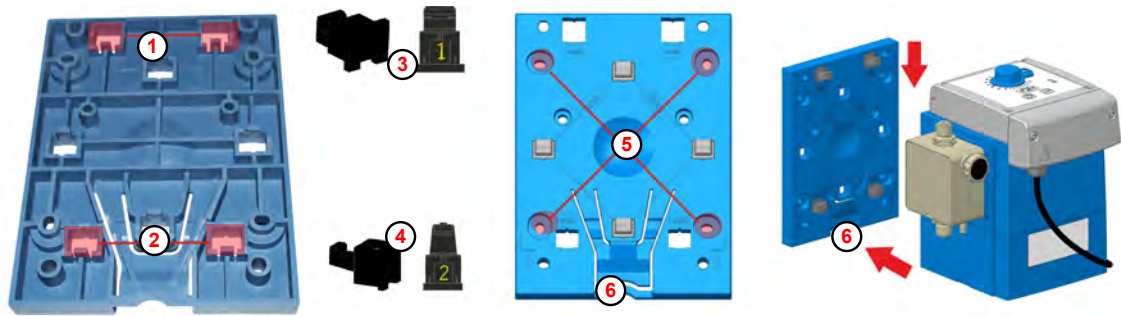

Fig. 5: Preparations for wall mounting
*On the underside of the mounting plate, the boreholes for wall mounting ( Fig. 5 , ① or ② ) are marked with a 2.*
*For wall mounting, use the fixing elements (supplied) 1 ③ and 2 ④ .*
2. Push the fixing elements marked 2 ④ into the two lower openings ① , from the rear and allow them to engage.
3. Push the fixing elements marked 1 ③ into the two lower boreholes marked with a 2 ② , from the rear and allow them to engage.
5. Using the mounting plate as a template, mark the required boreholes with a sharp pencil ⑤ .